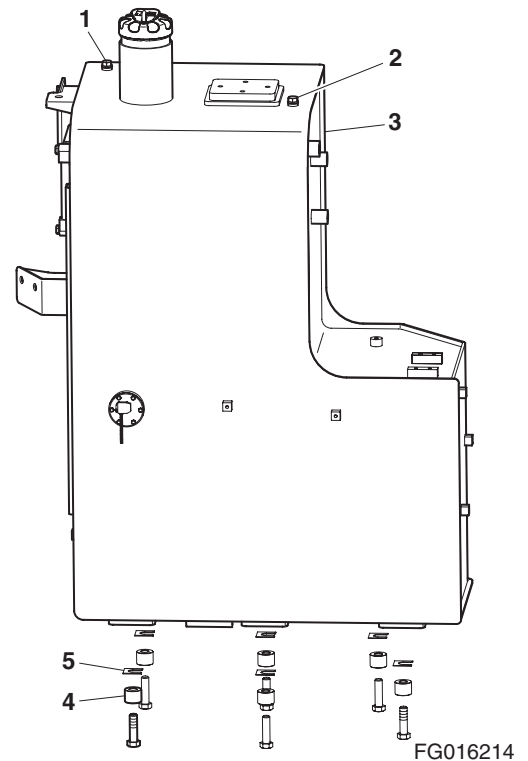

Figure 17
23. Install two 12 mm eyebolts in threaded holes (38 and 39, Figure 17). Using a suitable lifting device, sling eyebolts.
24. Remove four bolts (7) and spacers (13, Figure 17) holding tank (1) to frame. Lift tank 25 mm (1") and make sure it is balanced. Make sure that there are no other electrical wires or hoses connected to tank. Completely remove tank after inspection.
25. Remove shims (9, Figure 17).